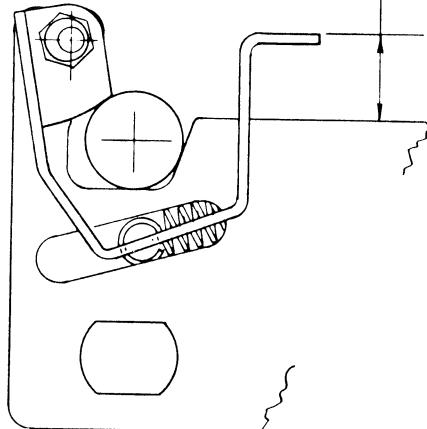

FIGURE 7-7
- (1) Figure 7-7 shows the latch mechanism and indicates the critical dimension.
- (2) If re-adjustment is necessary, remove the platen from the machine. Any attempt to make the adjustment while the platen is still in place can result in bending of the latch lever.
- (3) With the platen removed, loosen the clamp screw that is used to retain the eccentric anchor.
- (4) Use the 7/32" wrench to turn the eccentric in the direction of desired adjustment. Then re-tighten the retaining screw.
- (5) Re-install the platen assembly.
- (6) Again check the critical lever dimension, to determine the direction and amount of change.
- (7) If the adjustment is not within acceptable tolerances, repeat Steps #3 through #6 until the desired adjustment is achieved.